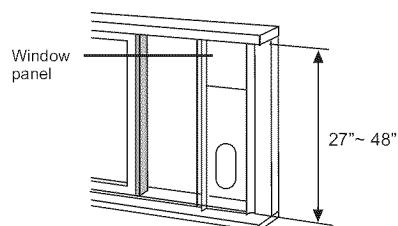

Fig.15
2. Attach the window slider kit to the window stool. Adjust the length of the window slider kit according to the width of window, shorten the adjustable window kit if the width of window is less than 27 inches. Open the window sash and place the window slider kit on the window stool. Shown as in Fig.15.